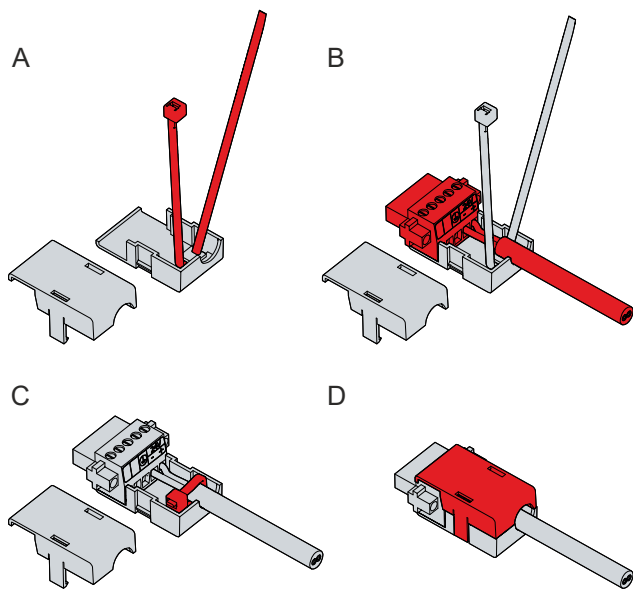

Fig. 14: CP6606_Assembly of strain relief housing
1. Use your fingers to bend the latching lugs on the lower part slightly outward (see Fig. 14).